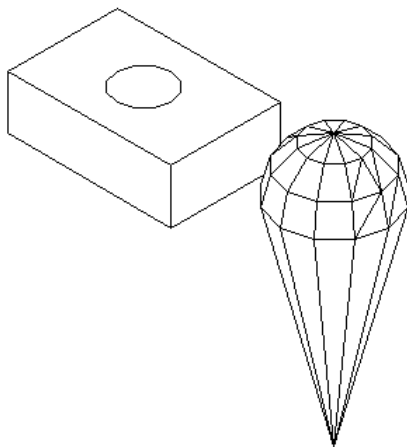

Figure 24-8: The four solids.
11. Save your drawing. It should look like Figure 24-8.